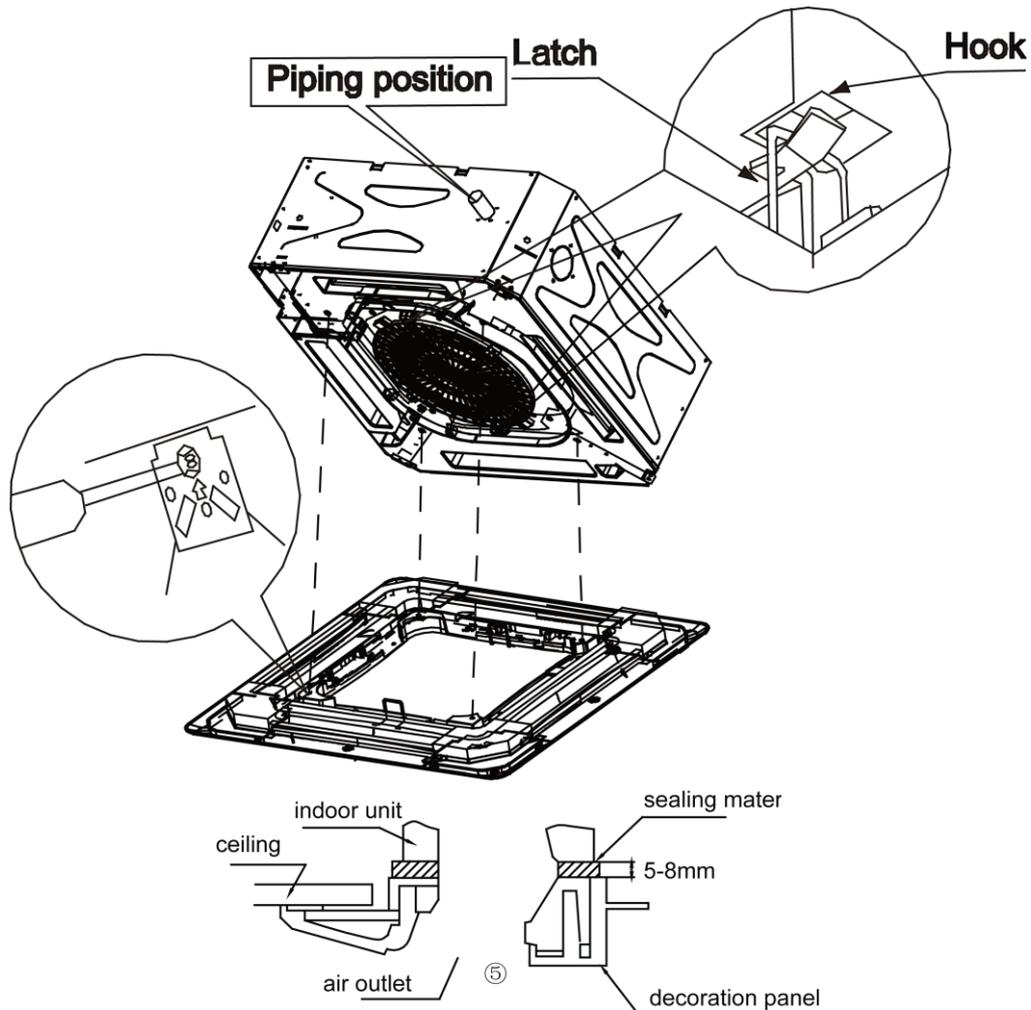

Fig 4.4.5
- (2) Temporarily hang the panel to body (there are four hangers on each corner of the panel, hang the hangers to corresponding hooks on the body), as shown in fig 4.4.5.
- (3) Detach the air inlet grille from panel, make a wiring connection of signal receiver. Notice that the connection wire not stuck in the middle of body and panel, or may cause air leakage and lead to condensation water drop.
- (4) Tighten 4 screws at each corner of panel respectively, fix the panel on the body firmly.
- (5) After tightening screws, reinstall the air inlet grille.